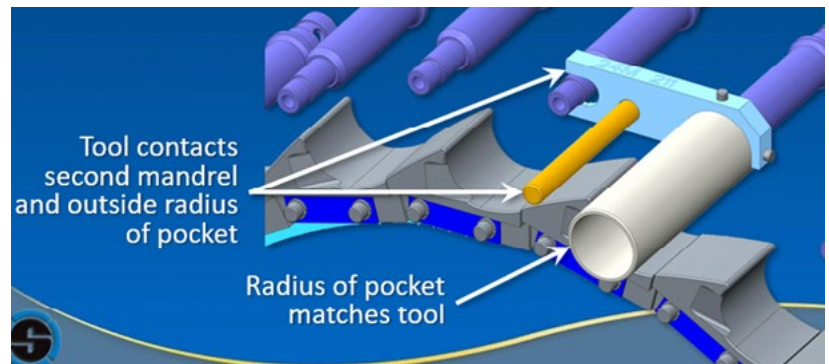

Figure 3
- a. If these pockets have not been used before, verify the setting to the mandrel shafts with the correct pocket alignment tool. (Figure 3)